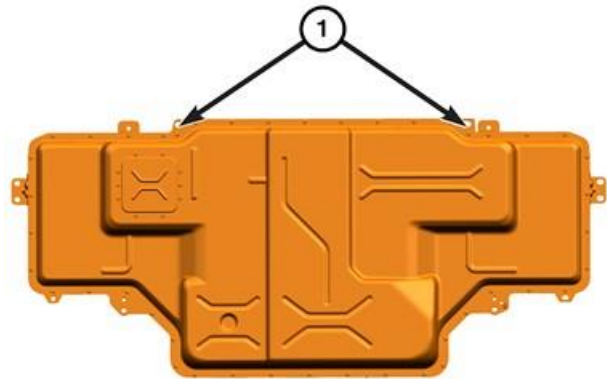

Figure 33 – Support Mounting Holes
57. Install two Eyebolt, 10mm 2035203080 with the nuts to the front support mounting holes (1) (Figure 33).